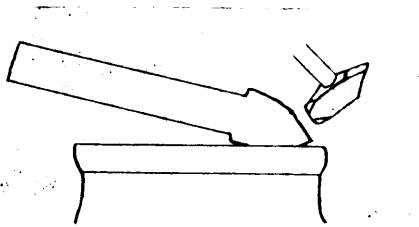
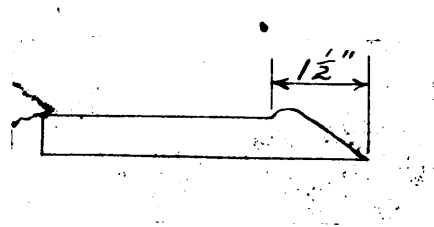

Figure 2.
Figure 3.
3. Place the end of stock on edge of anvil and form scarf. (Figure 2.). Length of scarf should be one and one-half times the diameter of the stock. (Figure 3.)